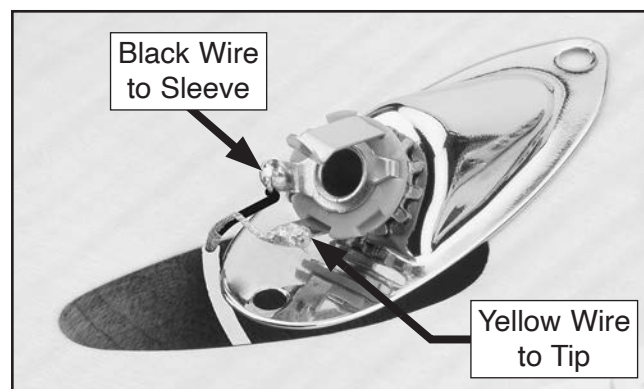

Figure 14. Wires soldered to output jack tabs.
1. Consulting **Step 3** on **Page 9** of owner's manual, solder black wire to output jack sleeve, and yellow wire to output jack tip, as shown in **Figure 14**.